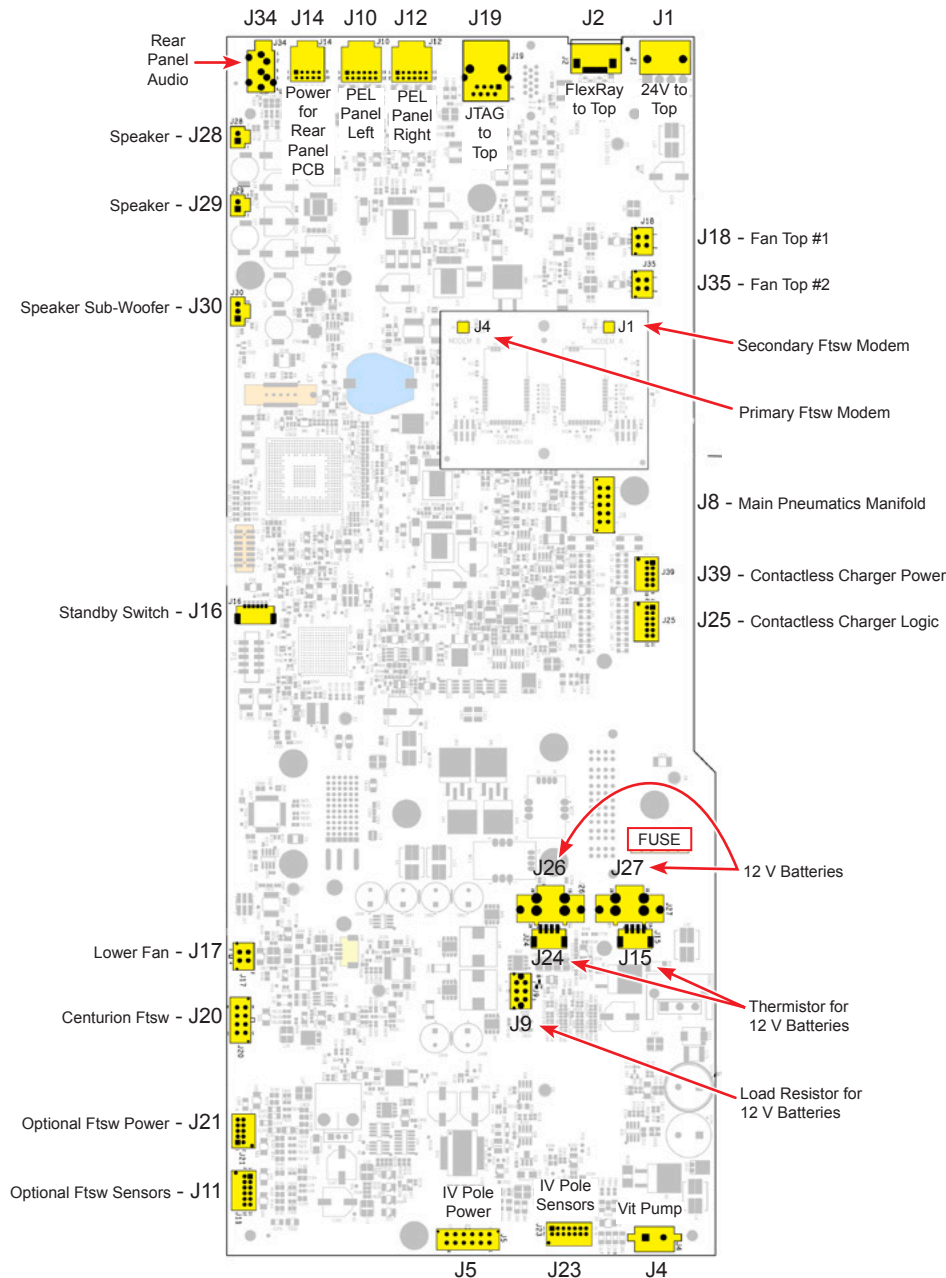

Figure 3-37 MFIO PCB Connector Diagram
- 34.6 Disconnect the connectors shown in yellow in Figure 3-37.